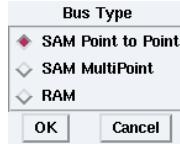

Figure 1.17: Type of a communication medium
- click **Modify type** → dialog window: **SAM Point to Point** (*cf. figure 1.17*),